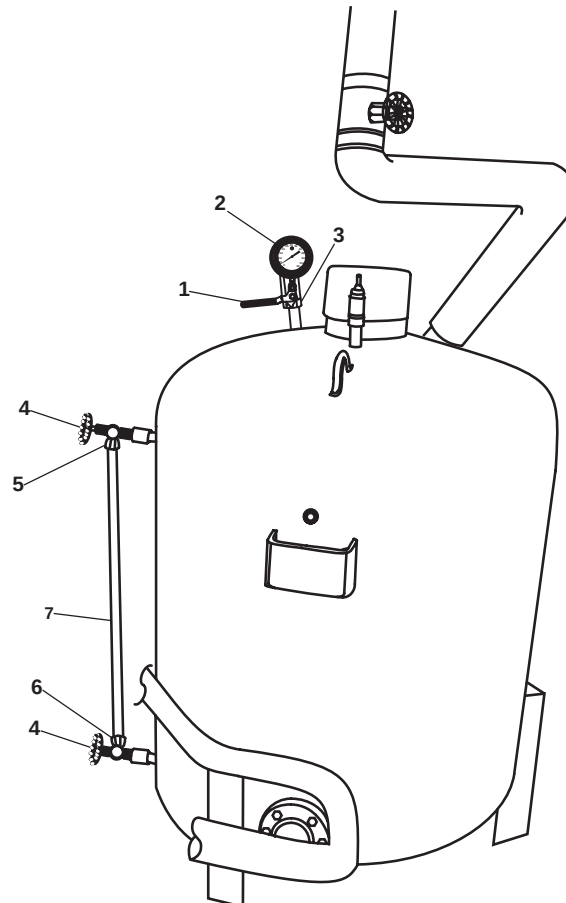

Figure 1. Hydropneumatic Tank
1. CLOSE the gauge shutoff valve (figure 1, item 1).
2. Remove the pressure gauge (figure 1, item 2) from the fitting (figure 1, item 3).
1. Apply antiseizing tape to the male pipe threads of the new pressure gauge (figure 1, item 3).
2. Install the new pressure gauge (figure 1, item 2) into the fitting (figure 1, item 3).
3. OPEN the gauge shutoff valve (figure 1, item 1), checking for proper operation and leakage.
1. CLOSE the sight glass shutoff valves (figure 1, item 4).
2. Loosen the top compression nut (figure 1, item 5).
3. Loosen the bottom compression nut (figure 1, item 6) and remove the sight glass (figure 1, item 7). Discard the sight glass and the two compression sleeves. Retain the compression nuts.
1. Install the compression nuts (figure 1, items 5 and 6) and the new compression sleeve on the top and bottom of the new sight glass (figure 1, item 7).
2. Install the new sight glass (figure 1, item 7) in the shutoff valves (figure 1, item 4) and tighten the compression nuts (figure 1, items 5 and 6).
3. OPEN the sight glass shutoff valve (figure 1, item 4) and check the sight glass (figure 1, item 7) for leaks and proper operation.